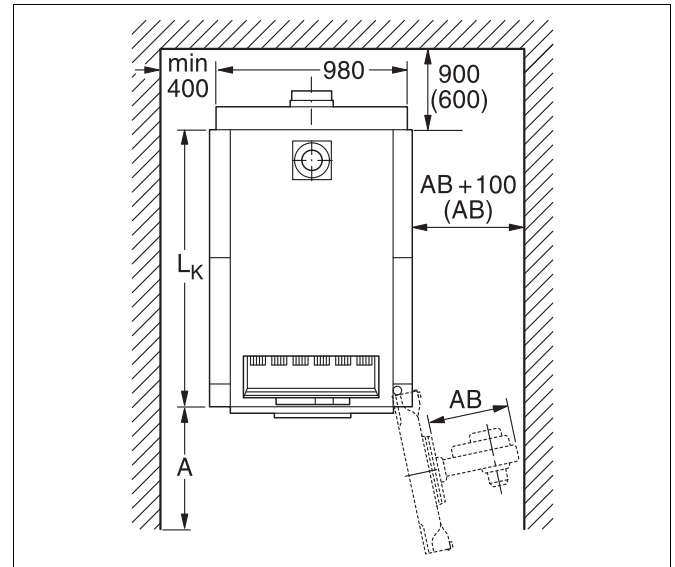

Fig. 6 Boiler room with boiler (dimensions in mm)
- Observe the recommended wall clearances for swinging out the burner door, for boiler installation and for cleaning and maintenance (→ Fig. 6 and table below).
If you do not observe the recommended minimum clearance A (Fig. 6), you will not be able to use the cleaning set (accessory) to clean the boiler. As an alternative, we recommend using shorter (approx. 1 m in length) mountable cleaning devices or wet cleaning.
- When building the foundations, consider to which side the burner swings out (left or right-hand burner door stop, Fig. 6, page 15).